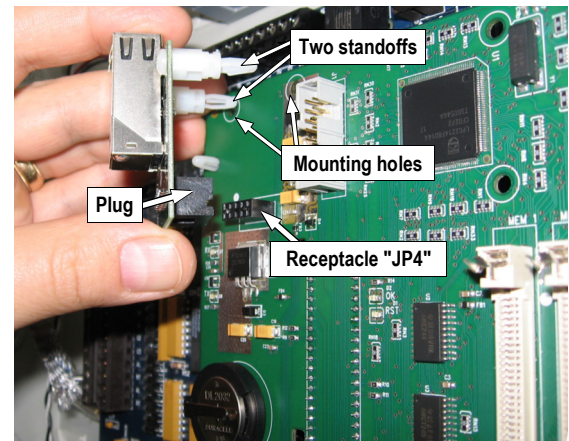

Fig. 3: Align the two snap-lock standoffs and plug with the Accelerator board holes and receptacle
4. **Align the board:** Use the image in Fig. 3 (above) to find the Ethernet board mounting location near the top of the CICP18ACCBBD Accelerator board. Carefully align the two Ethernet board snap-lock standoffs with the two Accelerator PC board mounting holes. Then align the Ethernet board plug with the Accelerator board receptacle (JP4) as shown below.